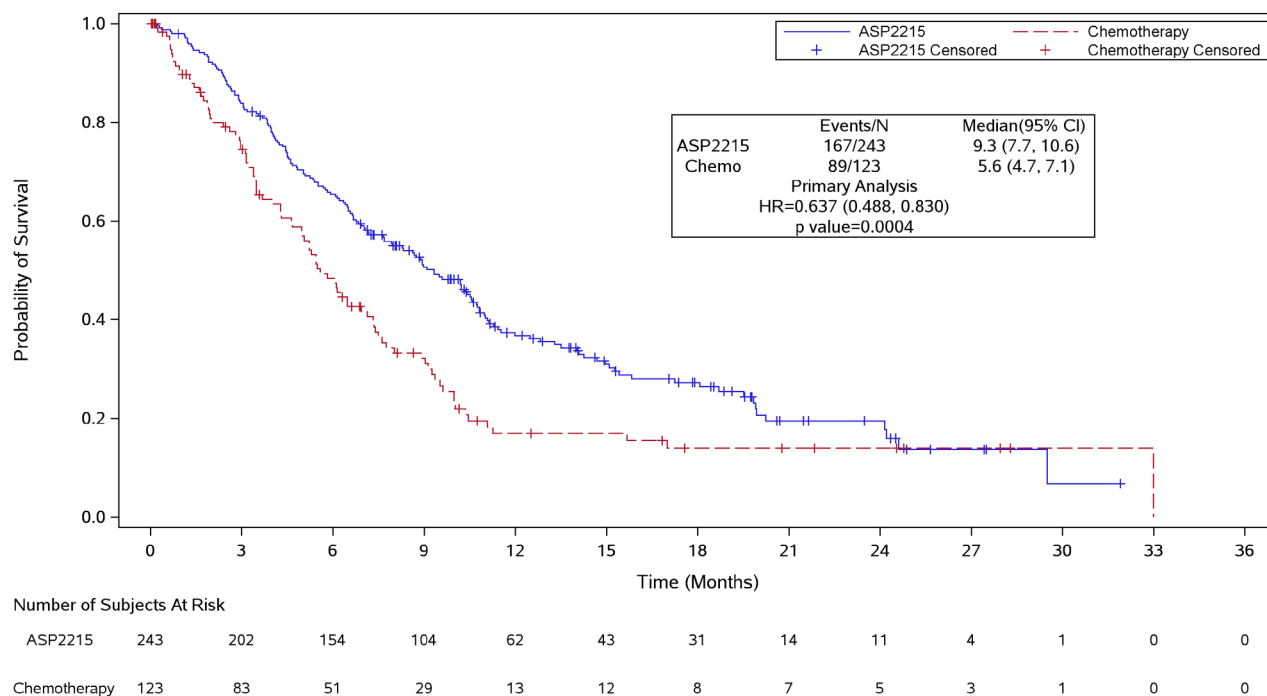

Figure 10 - Kaplan-Meier plot of overall survival.
- 18.1.6.1. At the final analysis, the median OS in the gilteritinib fumarate arm was longer (9.3 months) compared to that in the salvage chemotherapy arm (5.6 months) in the CDx+ population. The stratified hazard ratio (HR) by Cox regression was estimated to be 0.637 (95%CI 0.488, 0.830) relative to salvage chemotherapy, p-value (1-sided, stratified log rank) = 0.0004, corresponding to a relative risk reduction of death in favor of gilteritinib fumarate. The Kaplan-Meier plot is provided in Figure 10.